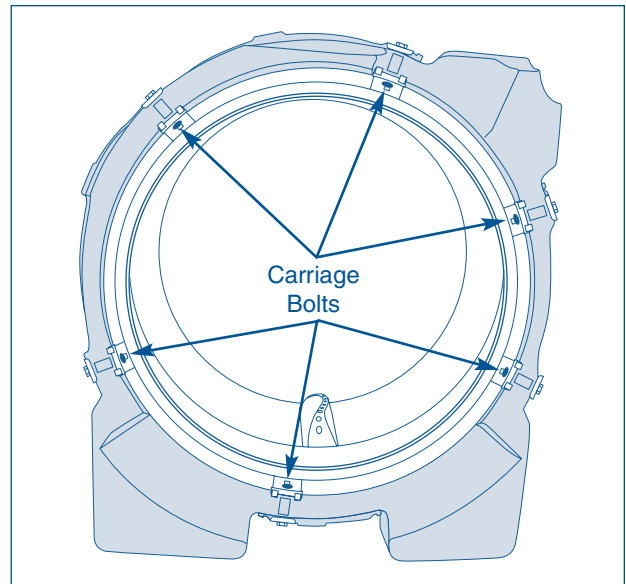

Figure 4-29.
6. Using a 7/16" socket or wrench, remove the nuts from the carriage bolts securing the weight ring to the outer wash tub assembly. Remove the carriage bolts and washers from the unit. (See Figure 4-29)